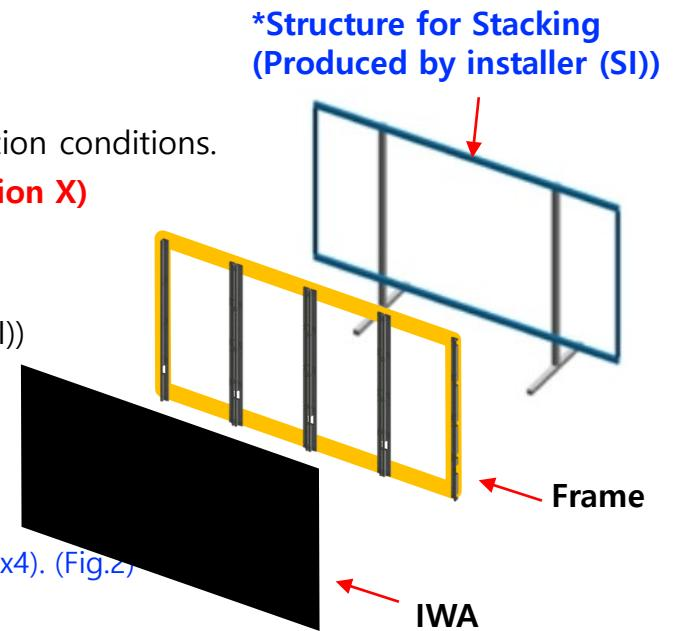
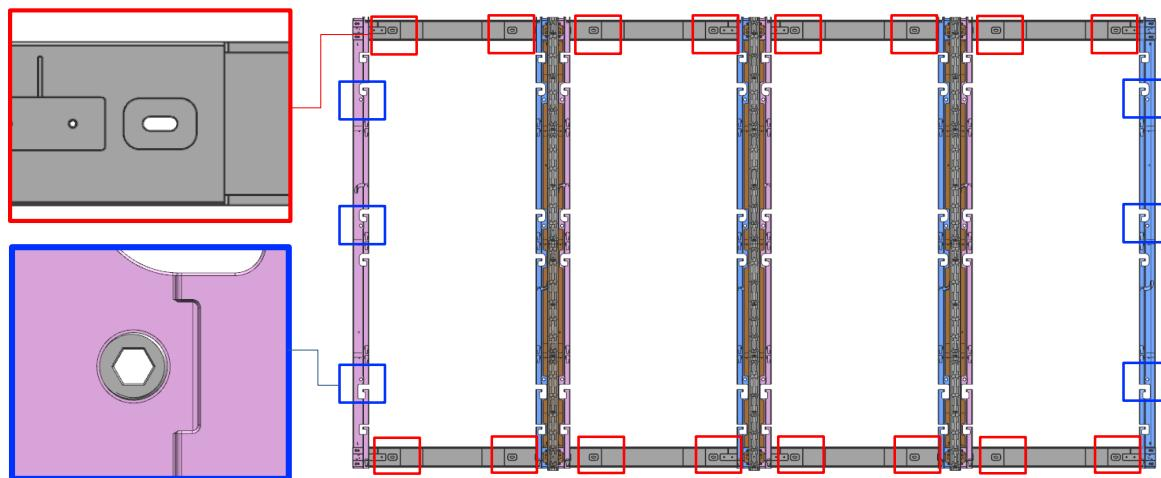

Fig.1 Concept of Stacking
Fig.2 Frame + Fixed point of structure
1. Stacking is installed in general structures except for wall hangers. (Fig.1)
3. Install the frame kit fixed to the stand-type structure. (Manufactured by installer (SI))
- Refer the figure below for the fixed point between FRAME and the structure. (based on 4x4). (Fig.2)